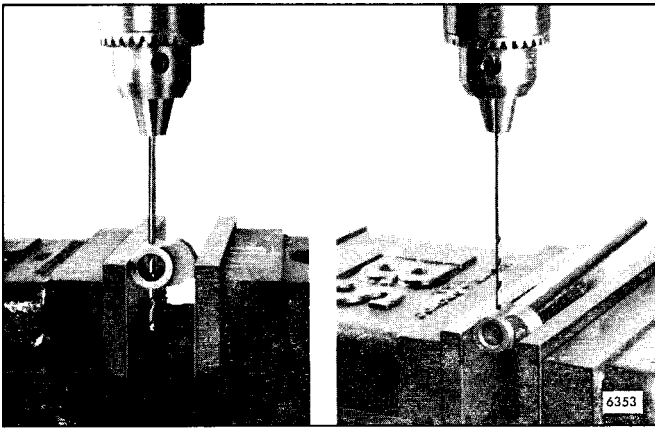

Fig. 2 - Aligning Drill Bit and Drilling Shaft
1. Install a 1/8" drill bit in the chuck of a drill press, then locate and align the bit through the existing hole in the shutdown cam (Fig. 2). Lock the cam in the holding fixture on the drill press, and withdraw the bit.
2. Insert the replacement shaft into the cam until the end of the shaft is recessed 1/8" from the end of the cam. Start the drill and bore a hole through the shaft (Fig. 2). Withdraw the drill bit, install the pin handle through the hole and remove the shaft from the drill press.